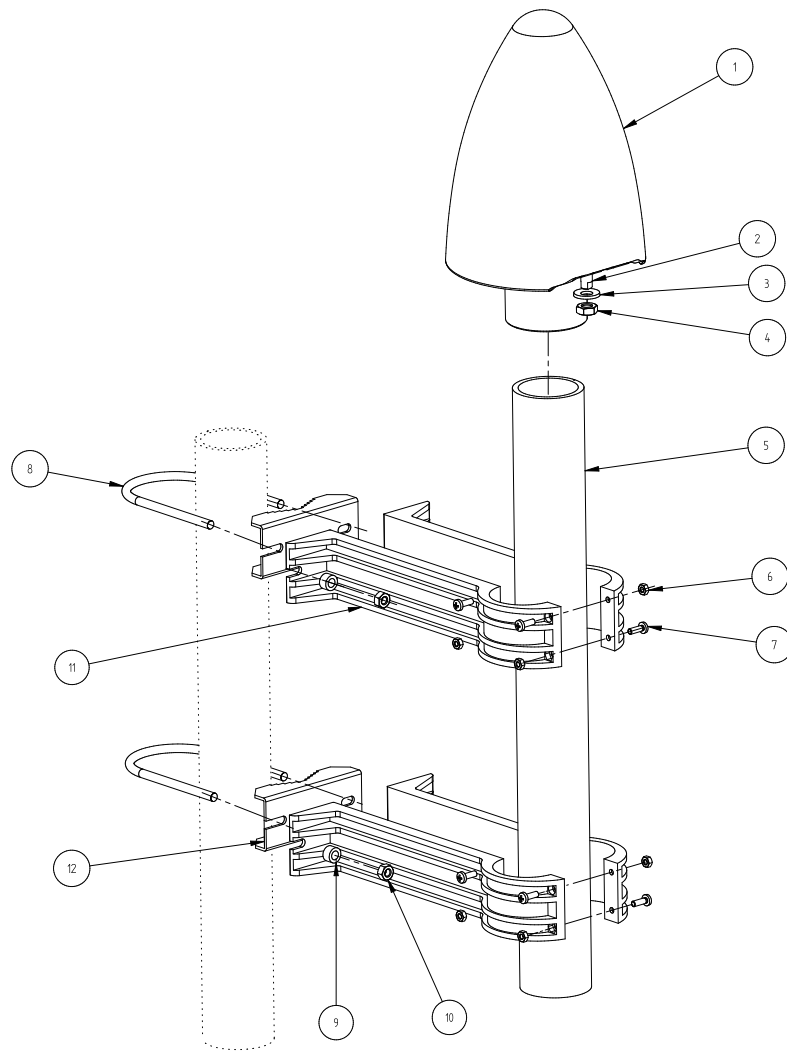

Figure 8.4: Mounting a GPSANTv2 antenna onto a mast
Fig. 8.4 illustrates the installation of a Meinberg GPSANTv2 antenna on a mast.
1. Insert the antenna tube (Item 5 in  Fig. 8.4) into the designated rounded recesses of the two pairs of antenna tube clamp halves (Item 11). Secure the tube inside each of the two clamps using four M4x12 Phillips screws (Item 7) and corresponding M4 hex nuts (Item 6). To ensure that the tube (Item 5) is as secure as possible, the top and bottom M4x12 screws (Item 7) of each tube clamp should be inserted from opposing directions as shown in  Fig. 8.4.